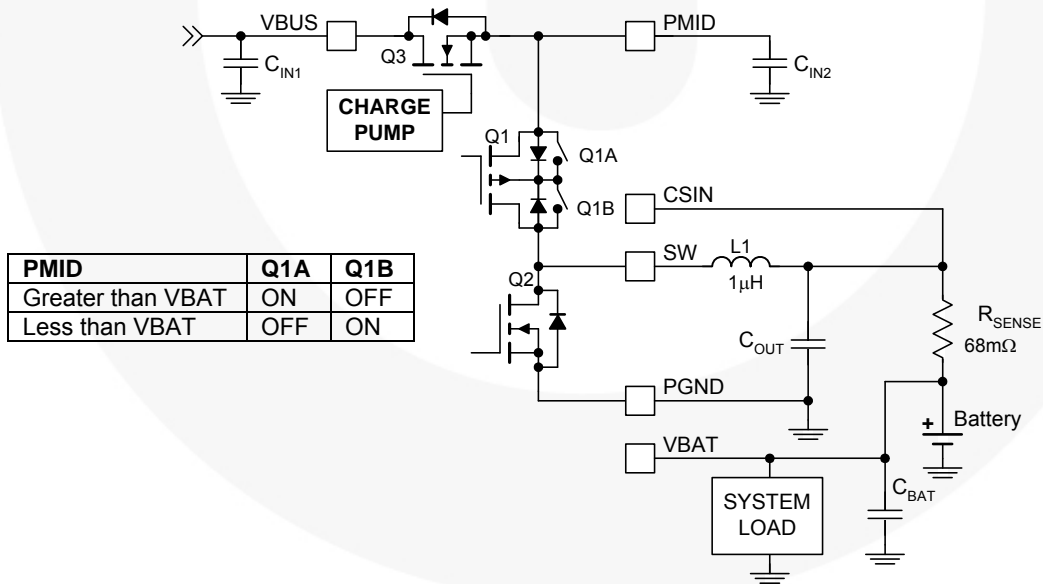

Figure 3. Power Stage
- 6.3V rating is sufficient for C_{MID} since PMID is protected from over-voltage surges on VBUS by Q3 (Figure 3).